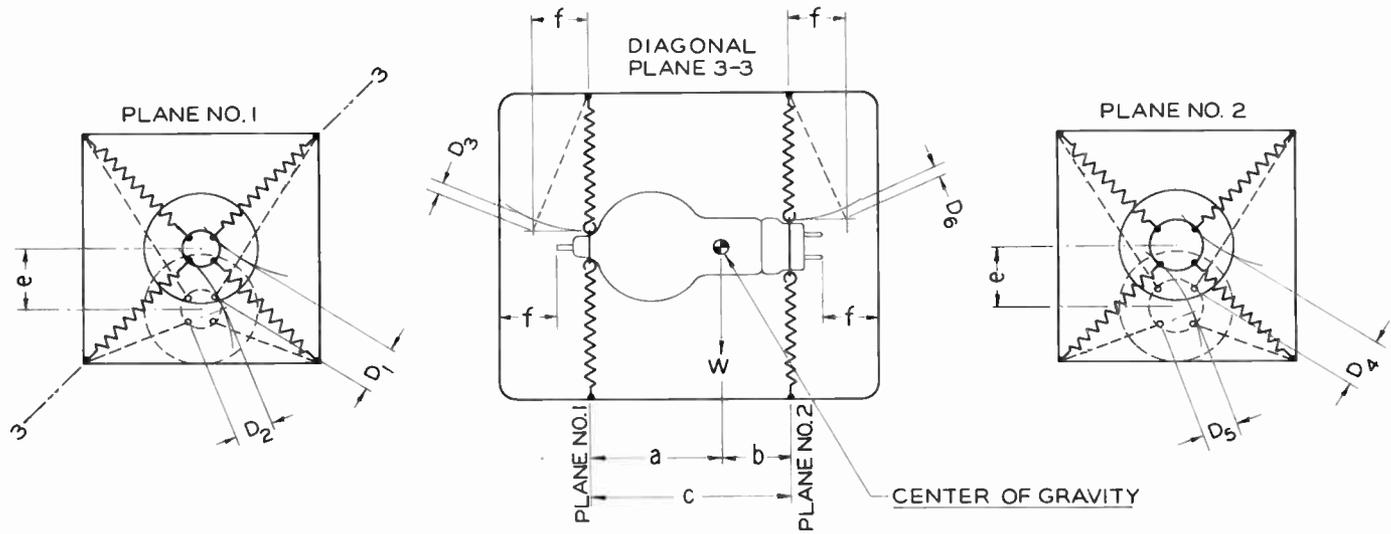

FIG. 2
Actually for the complex suspension system shown in Fig. 2 the relation between "F" and "S" is not absolutely linear, but tests indicate that this relationship is sufficiently linear to approximate the maximum deceleration which the tube receives by employing the following equations.
- D₁ = Extension of springs for lateral tube deflection in plane No. 1—inches (see fig. 2)
- D₂ = Relaxation of springs for lateral tube deflection in plane No. 1—inches (see fig. 2)
- D₃ = Extension of springs for axial tube deflection in plane No. 1—inches (see fig. 2)
- D₄ = Extension of springs for lateral tube deflection in plane No. 2—inches (see fig. 2)
- D₅ = Relaxation of springs for lateral tube deflection in plane No. 2—inches (see fig. 2)
- D₆ = Extension of springs for axial tube deflection in plane No. 2—inches (see fig. 2)
- e = Maximum lateral deflection of tube—inches (see fig. 2)
- f = Maximum axial deflection of tube—inches (see fig. 2)
FOR A LATERAL DEFLECTION OF "e" AT PLANE NO. 1: -SEE FIG. 2
SIMILARLY FOR PLANE NO. 2: -SEE FIG. 2
FOR AN AXIAL DEFLECTION OF "f" AT PLANE NO. 1: -SEE FIG. 2